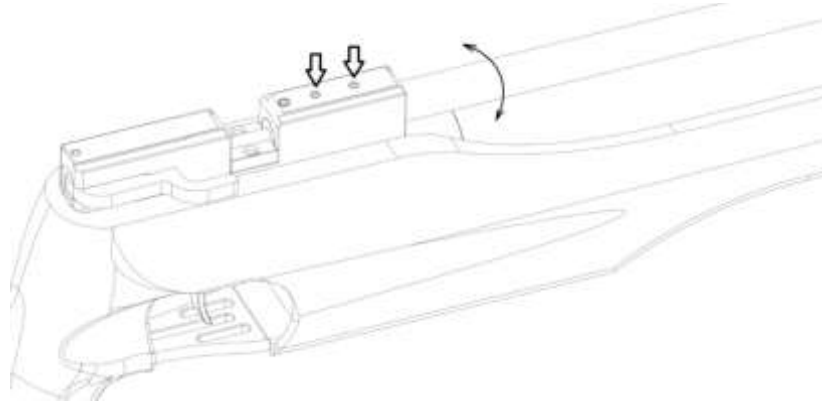

Fig.9
- Loosen the two socket head screws situated in the front part of the receiver (Fig.9)